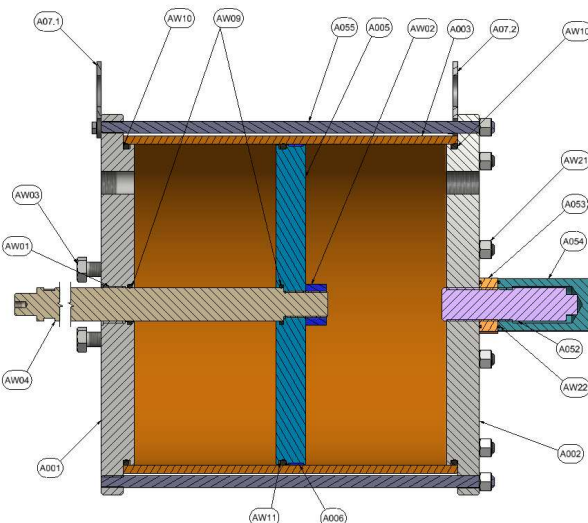

Figure 6 - Power Module - External stroke Adj. + Tie Roads
7.1.1.3. **Only For power module with Tie Roads (Figure 6)**, progressively loosen all the nuts (AW21) of the tie rods (A055) until the flange is relieved from all the tension. Completely unscrew all the nuts (AW21)
7.1.1.6. **Only for actuators with Tie Road (Figure 6)** remove the tie rods (A055) and disengage the power cylinder (A003) from the piston (A005).